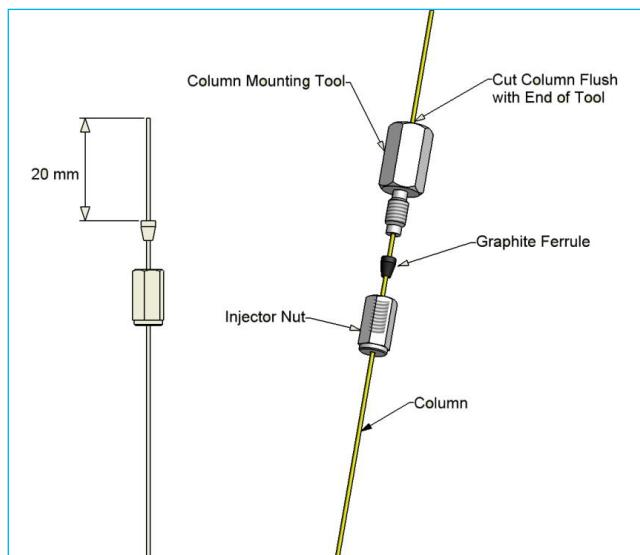

Figure 4.5 Column Installation
1. Install a column using proper ferrule and the column mounting tool. Push the column through the inlet nut and ferrule (Fig. 4.5). **The cone of the ferrule should go into the nut!** Avoid the use of the Vespel ferrules as these are likely to cause leaks.